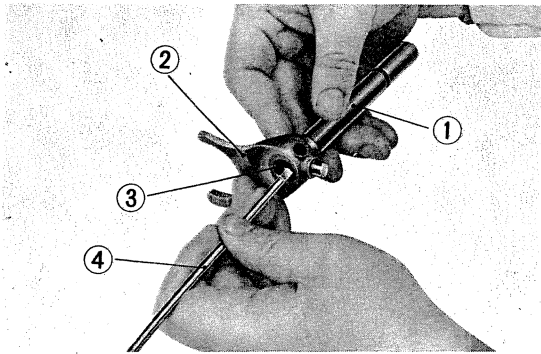

Fig. 91 ① Shift fork guide shaft ② L. shift fork ③ 4×10 roller ④ Screwdriver
- 1) Assemble right gear shift fork on the gear shift fork guide shaft. (Fig. 91)